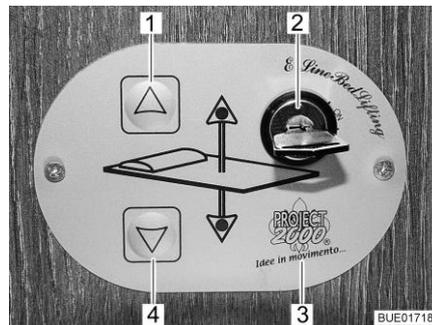

Fig. 77 Control unit
The pull-down bed is raised or lowered using the buttons (Fig. 77,1 and 4) on the control unit (Fig. 77,3). The control unit is protected against unauthorized use with the key switch (Fig. 77,2).
- Turn the key in the key switch (Fig. 77,2) by 90° in a clockwise direction to position "On". The control unit (Fig. 77,3) is activated.
- Press the arrow key (Fig. 77,4) and keep it pressed until the pull-down bed has moved down into the desired position.
- Press the arrow key (Fig. 77,1) and keep it pressed until the pull-down bed has moved down into the final upper position.
If it is no longer possible to move the pull-down bed with the arrow keys (Fig. 77,1 and 4), first of all check the fuses (see section 9.11.1). If the fuses are okay and it is still not possible to move the pull-down bed, the pull-down bed can be operated manually.